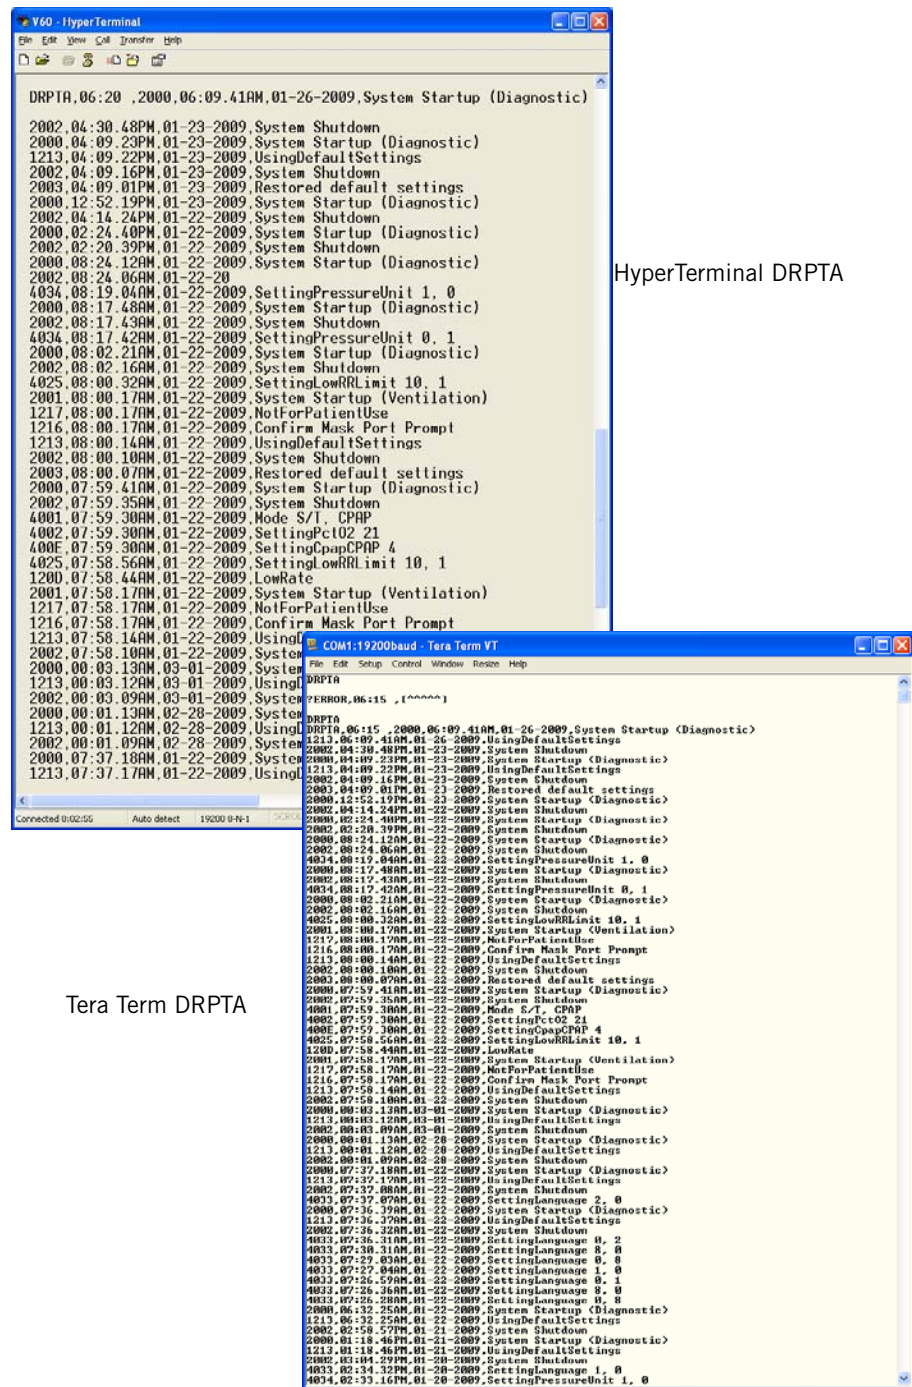

Figure 6-32: Example Diagnostic Report (DRPTA)
5. If the command is successful, a DRPTA appears (Figure 6-32).